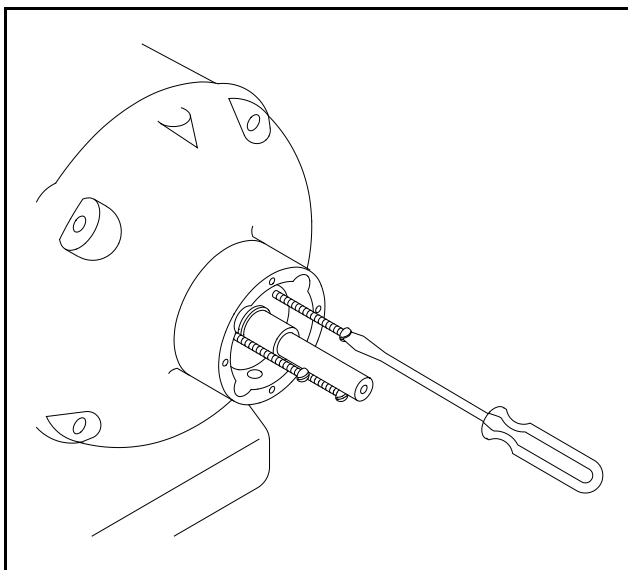

Figure 12. Removing a stuck clutch
- 7.1.3 Thread the three 6-40x1" screws into the holes in the clutch hub. Tightening these screws in an alternating pattern will back out the clutch hub. See Figure 12.